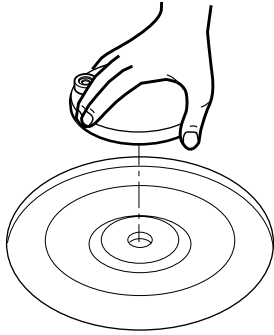

Figure 19
- (1) Remove the glass tray and rotating ring.
- (2) Remove the turntable shaft VERY CAREFULLY with hand. (Figure 19)